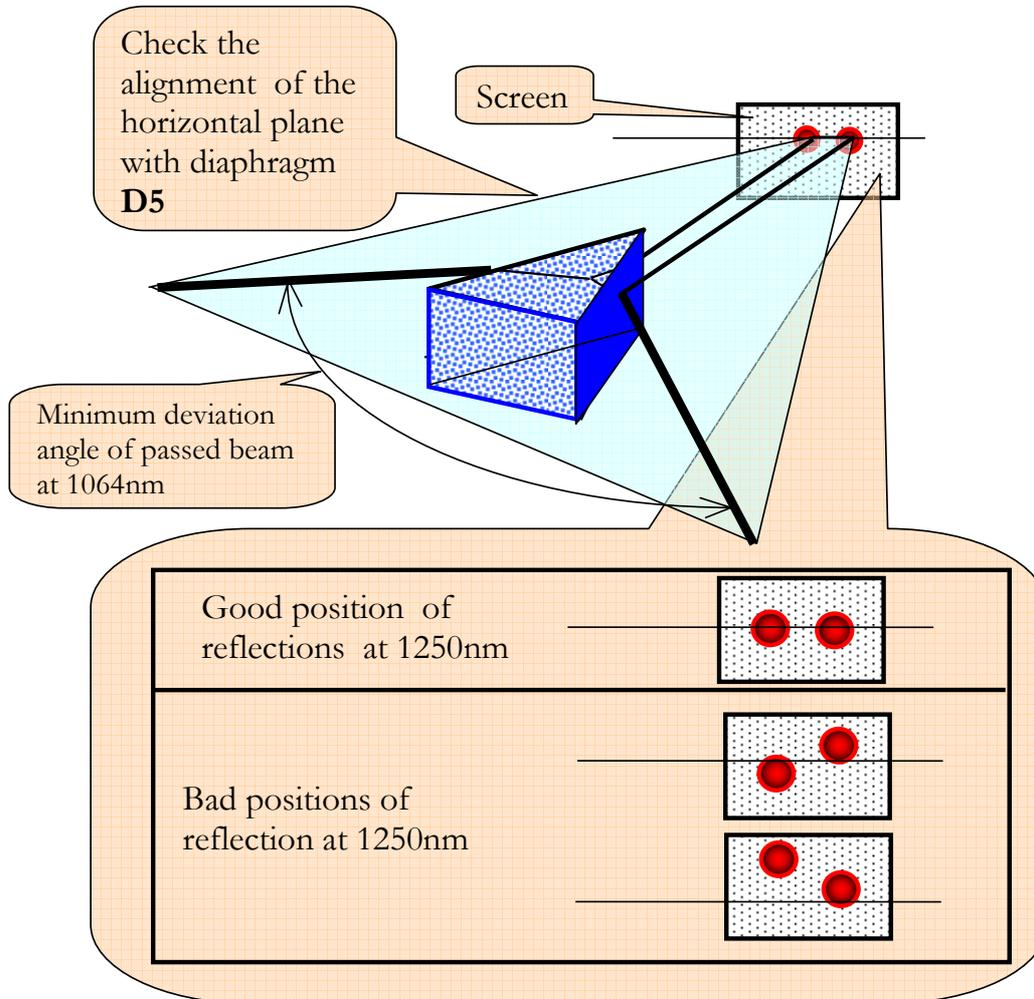

Figure 6.4 Aligning prisms P1 and P2.
Refer to CHAPTER 4.3. Rotate the **Base Plate 6** by using **Screw 5**. Vertically align the Pump Laser beam passed by the prism with **Screw V(3)**. **Diaphragm D5** is used to control the height of the beam. Using **Screw H (4)** align the reflections of the emitted beam (1250nm) as shown above **Figure 6.4**. Repeat several times realigning mirror **M1** to maximize the output power each time.